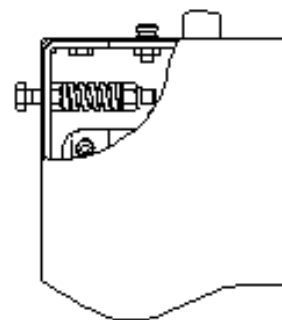

Fig. 8
4.1.6 Tracking adjusting bolts: Located on the front side of the console. See Fig. 8